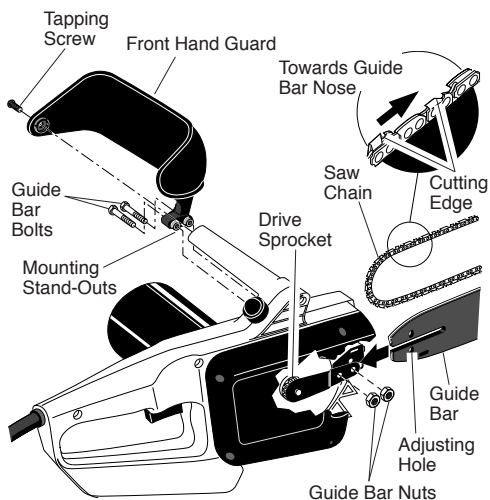

Figure 2 - Assembling Guide Bar, Chain, and Hand Guard
2. Install front hand guard onto saw body. Do this by pressing two mounting stand-outs on hand guard into hex-shaped holes in saw body (see Figure 2).
1. Before adjusting chain, make sure guide bar nuts are only finger tight (see Figure 2, page 8). Also make sure adjusting block is in oval adjusting hole on guide bar (see Figures 2 and 3, page 8).